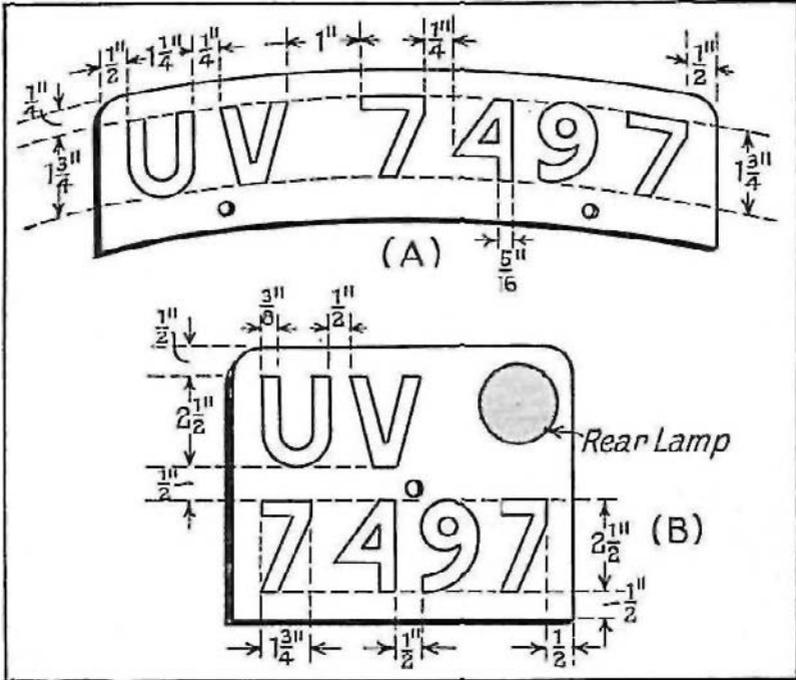

FIG. 44. NUMBER PLATE DIMENSIONS
**Number Plates.** Definite regulations are laid down concerning the size of motor-cycle number plates and their identification numbers. Up till 0th October, 1930, both number plates were permitted to be in accordance with the dimensions given at A, Fig. 44. This still holds good in respect to the *front* number plate, but as regards the rear plate new dimensions are now specified. They must be as shown at B, Fig. 44. All letters and figures must be  $2\frac{1}{2}$  in. high, with a total width for each letter or number of  $1\frac{3}{4}$  in., except in the case of the figure 1. Every part of every letter and figure must be  $\frac{3}{8}$  in. broad. The space between adjoining